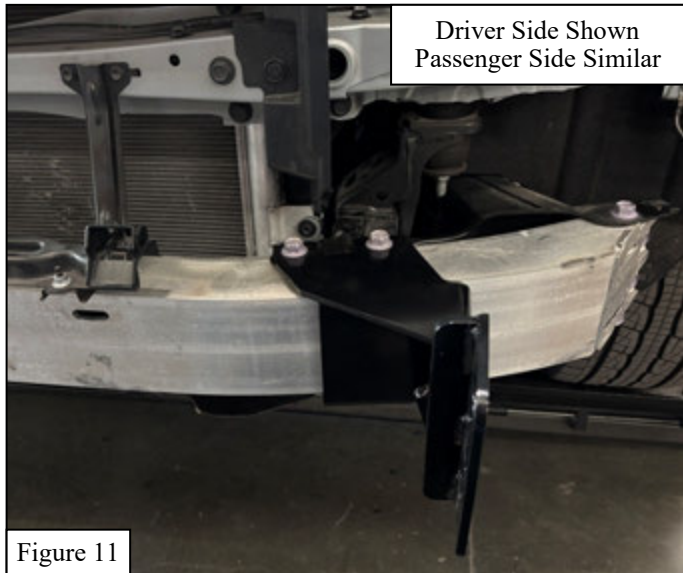

Figure 11
8. Loosely install the Mount Brackets (**items 4 and 5**) using the hardware removed in the previous step. See **Figures 11 and 12**.